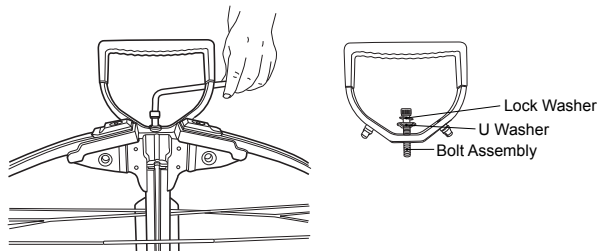

Figure 8
- 13 Secure the bow unit and the foot stirrup to the barrel by tightening the assembly bolt with u-washer and lock washer in place using the 1/4" allen wrench provided. Tighten fully (See Figure 8). **TIP – Do not rock the bow unit back & forth when securing the bow unit onto the barrel. Tightening the assembly bolt will secure the bow unit. Note: Be sure riser is properly installed before engaging crossbow. Assembly bolt may need to be retightened periodically after use.**